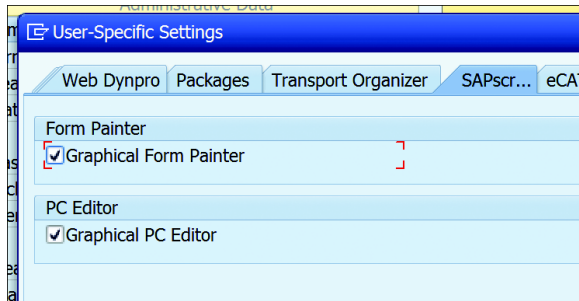

Figure 18.5 Activating Graphical Form Painter
- To activate the layout designer, from the menu select SETTINGS • FORM PAINTER to open the USER-SPECIFIC SETTINGS window. In this window, under the SAPSCRIPT tab, select GRAPHICAL FORM PAINTER (see Figure 18.5) and click OK. Once the graphical Form Painter is activated, you'll see a LAYOUT button in the toolbar. Click the LAYOUT button to start the graphical Form Painter.